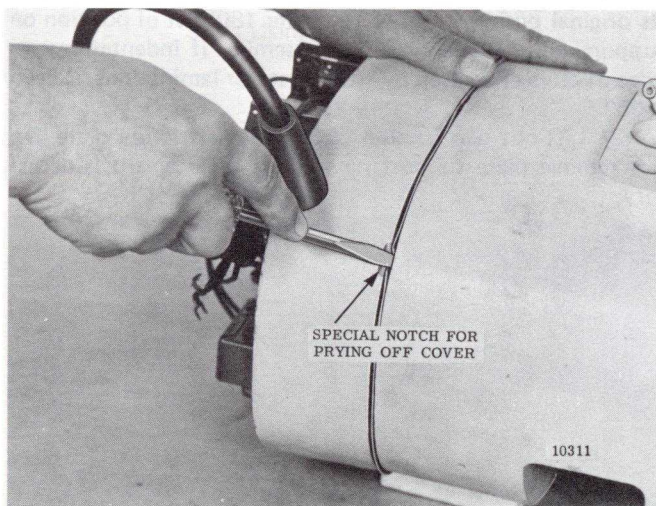

**Figure 7-4. View of Push Button Model Hoist with Electrical Compartment Cover Removed**
(1) Disconnect hoist from power source. Remove three cover retaining screws and lift off cover (figure 7-4). Cover screws have retaining rings which hold them in cover. Use caution as some covers contain counterweights.
(2) Disconnect three push button conductor cable leads at plug-in type connectors that can be pulled apart. Remove screw and washer securing strain reliever (fig. 7-4) and pull the cable and grommet from its slot in gear case cover.
(3) Disconnect power supply flexible cable leads from terminals of contactor. Remove screw attaching ground leads to gear case cover and pull flexible cable and grommet from slot in cover.
(4) Disconnect motor leads from electrical control units. Number of leads depends on type of motor. (See wiring diagrams in Section VIII).